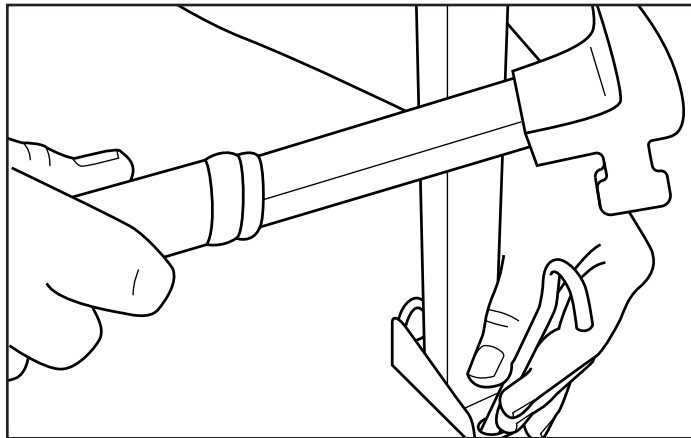

Fig.11
11. At the bottom of the Ground Support assembly, hammer the two stakes through the holes into the ground (**Fig.11**) for added stability.